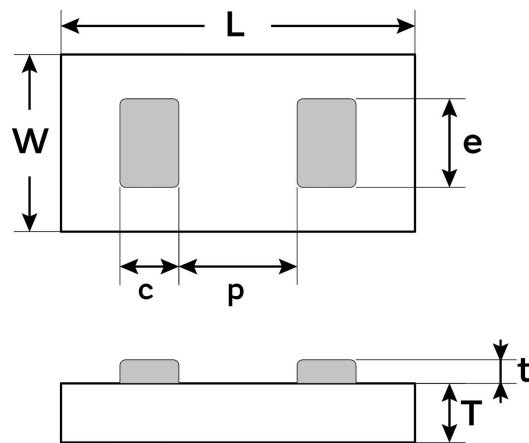

Figure 7 - Package outline
(1) On request
(2) SAC = ENIG (0.1µm Au / 5µm Ni) + SAC305 type 6 or NiAu = ENIG (0.1µm Au / 5µm Ni)
(3) missing capacitors can reach 0.5%
(4) refer to Figure7